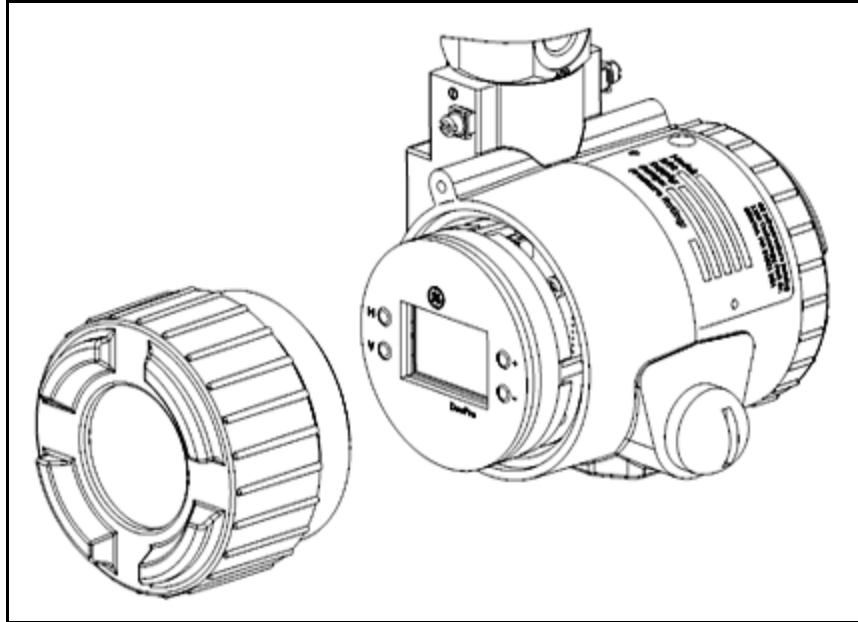

Figure 14: DewPro with Display Assembly
1. Unscrew and remove the protective window lid from the top of the DewPro (as shown in Figure 14 above), exposing the display module below. The buttons V, H, + and - are now accessible.